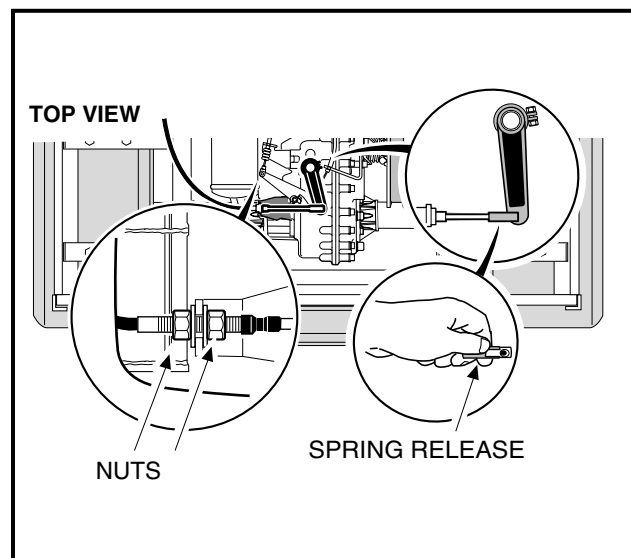

Figure 16-17 Shifter Cable
- 5.9. Loosen nuts securing shifter cable to the mounting bracket and disconnect the shifter cable rod end from the shifter arm on the unitized transaxle. Remove the cable from the cable mounting bracket (**Figure 16-17, Page 16-9**).